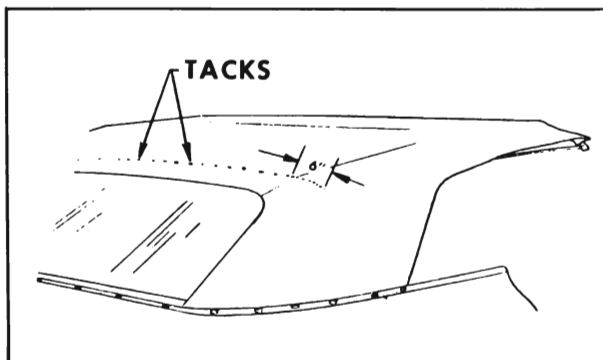

Figure 7-47—Tacks Outboard of Seams
**IMPORTANT:** Tacks must be installed along a straight line in center of rear bow (see Figure 7-47). Tacks outboard of deck seams should be restricted to distance not to exceed six inches, which is length wire-on binding extends past seam (see Figure 7-47).